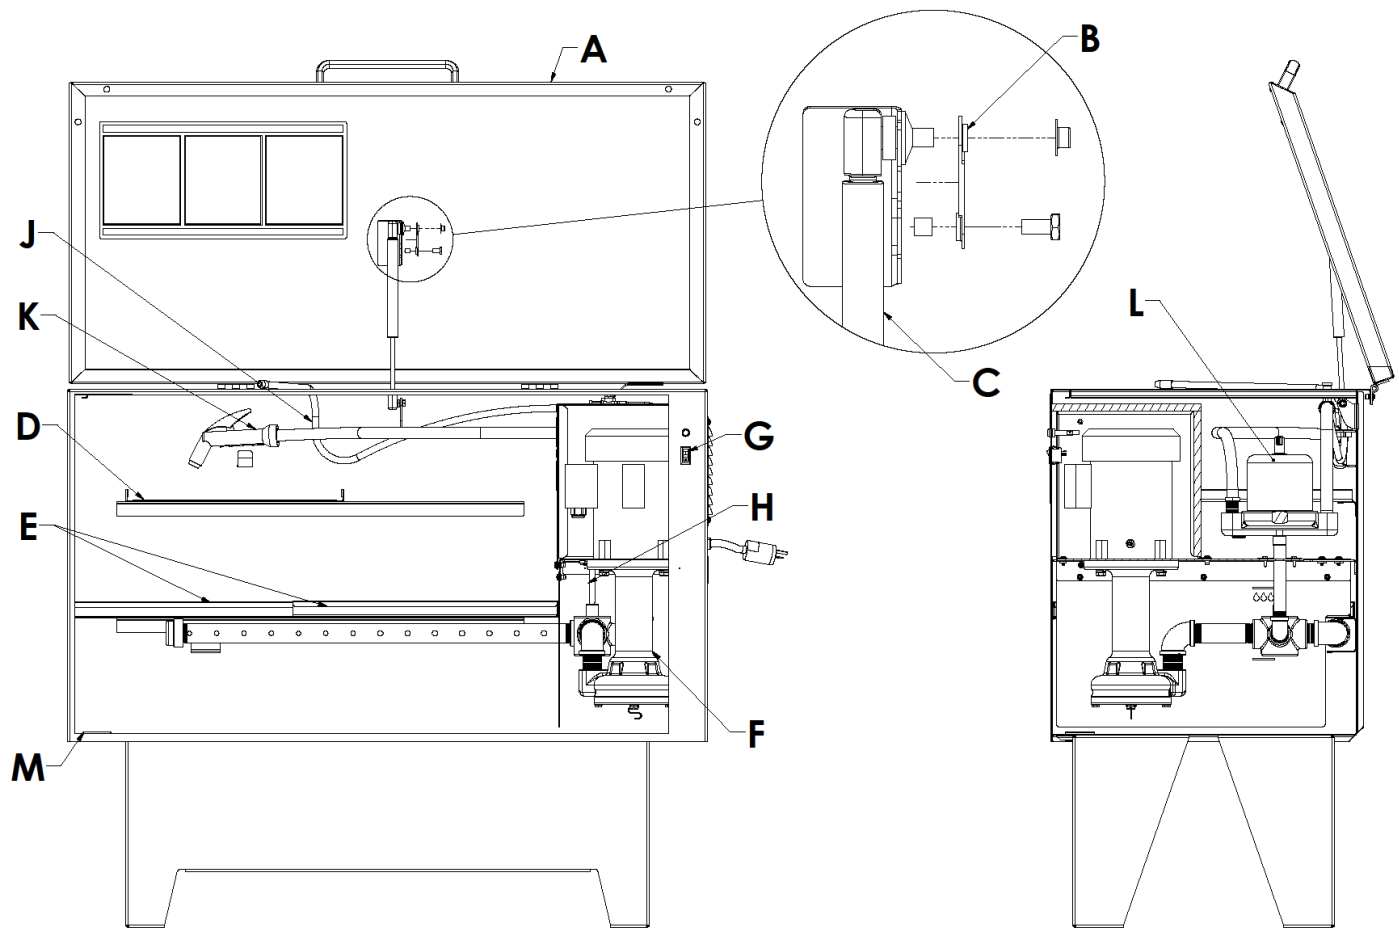

FIGURE 1
Open the automatic Safety Cover (FIGURE 1 (A)) on your PrintClean and you will notice that it lifts simply and easily with one hand. There is nothing to connect or disconnect to open or close the cover.
Your PrintClean cover is equipped with a two-way gas spring (FIGURE 1 (C)) that also incorporates a fusible link (FIGURE 1 (B)). When open, the cover mechanism supports the cover at a slightly forward angle. This angle is necessary to assure the cover's fusible link will operate in the unlikely event of fire in the tank. In the event of a fire, the fusible link will melt at 165°F permitting the lid to slam shut, reducing oxygen supply to the fire.
Every PrintClean comes equipped with one perforated shelf (FIGURE 1 (D)) and two telescoping shelves (FIGURE 1 (E)) which serve as a freeboard barrier to help limit VOC emissions. Your own cleaning needs will determine which position is best for your operation.
The centrifugal pumping unit (FIGURE 1 (F)) supplied with the PrintClean is a rugged “machine tool” quality unit that is a valuable aid in parts cleaning. It is particularly useful in flushing away softened grease and grime after parts have been soaked.
To operate the pump and tank agitation after filling, turn on the switch (FIGURE 1 (G)) on the front of the PrintClean or turn valve for air. The green pilot light should go on, indicating that the pump is running. On all models, the small valve on the flexible metal hose (FIGURE 1 (J)) allows you to cut off flow to the flexible hose, directing all fluid through the spray hose (FIGURE 1 (K)). Always direct flow into tank in such a way as to avoid splashing. Never point spray nozzle at anyone. On Models 554 through 974, the Selector Valve (FIGURE 1 (H)) is located on the inside rear-right hand side of the tank. The Selector Valve permits use of tank agitation alone, the flush and spray hoses together, or a combination of all three.
Your PrintClean is equipped with a filter (FIGURE 1 (L)) with a reusable screen collector element. This screen collector should be cleaned at least once a week, more often in heavy use, in order to help extend the life of the cleaning fluid and increase cleaning efficiency. Periodically, an oil filter cartridge (see spare parts list below) can be placed in the filter canister in place of the screen collector. Running the pump for a few hours will pull more contaminants out of the fluid and help extend fluid's usable life. (not included with HP version)